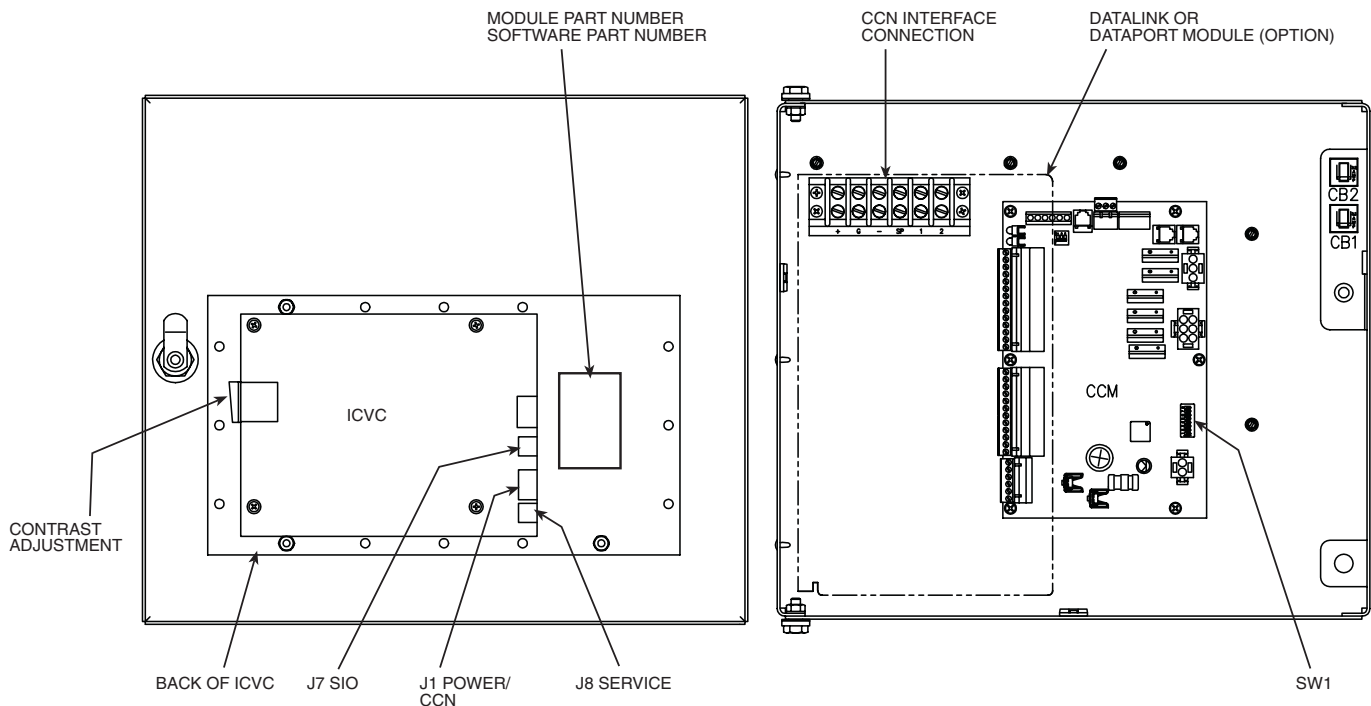

Fig. 44 — Rear of ICVC (International Chiller Visual Controller)
2. If a green LED is on continuously, check the communication wiring. If a green LED is off, check the red LED operation. If the red LED is normal, check the module address switches (SW1). See Fig. 44 and 45. Confirm all switches are in OFF position.